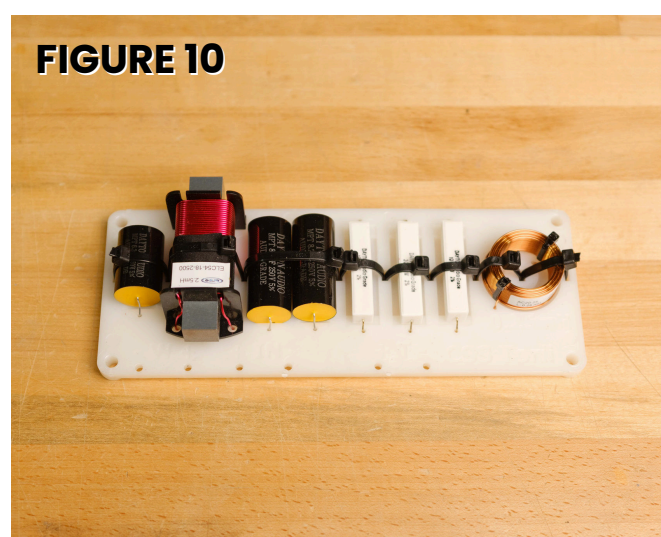

FIGURE 10
3. Insert all component leads through the board and secure components in place with the supplied zip ties before soldering. (*figure 10*)